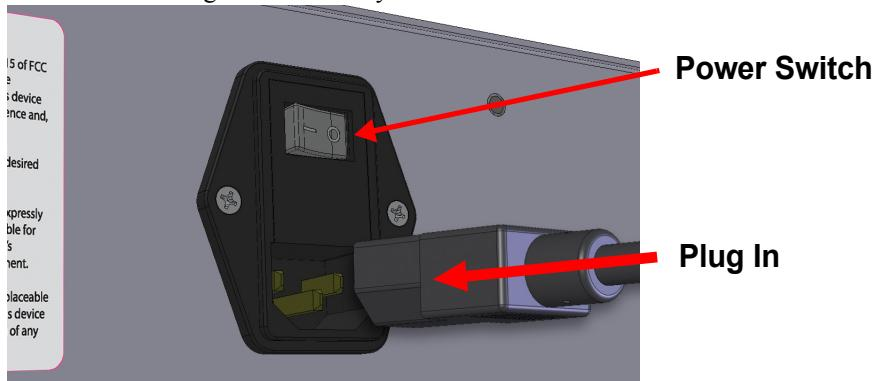

Figure 2-1 Location of On/Off Switch
Step 5 Set the power (| / O) switch shown in **Figure 2-1** to the | (on) position. The system will then power on, run a diagnostic check, and enter Ready to Wand Mode. During the diagnostic check the LEDs on both the wand and box will flash to assure proper operation. The system will beep once when switched on and again when Ready to Wand Mode is entered.